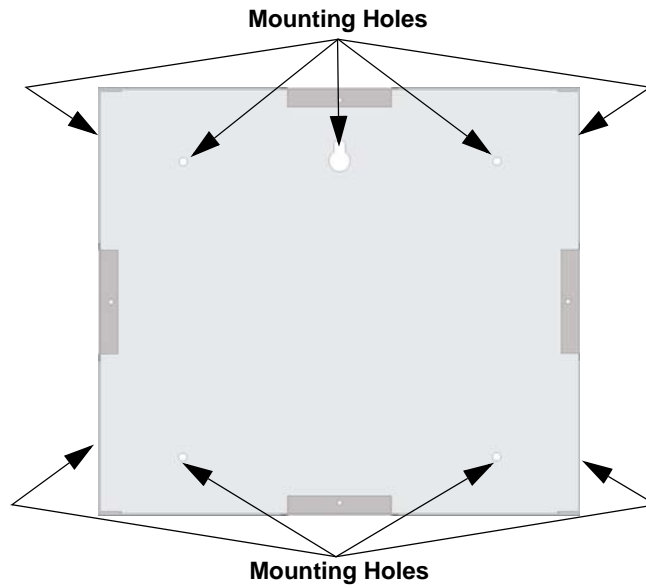

Figure 4.16 Back Box Mounting Holes
1. The back box dimensions are 9-9/32" w x 8-3/8" h. The minimum depth 2". The back box can be mounted prior to the complete installation of the 6855 using any of the mounting holes shown in Figure 4.16.